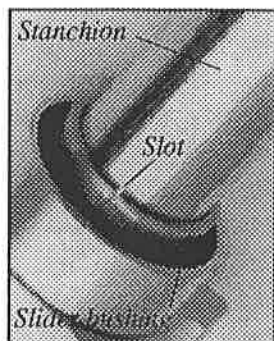

Fig. 20
4. Slide a new slider bushing over the stanchion. Lightly grease the outside of the bushing with Teflon grease. Make sure that the slot in the slider bushing is pointing to either side (Fig. 20), but not to the front or back of the slider.